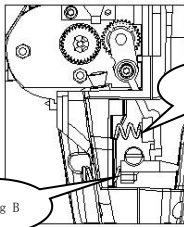

Fig. 4
4). Remove the spring A at the end of release lever by plier (Fig. 4)